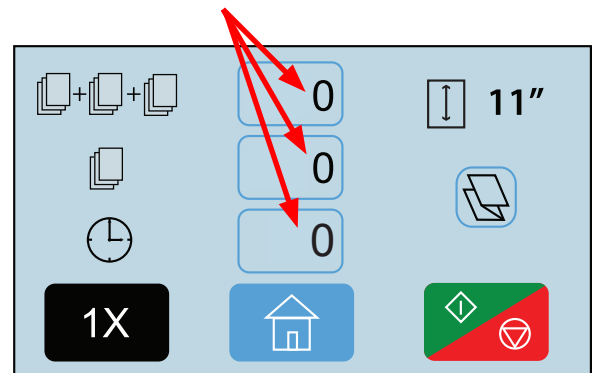

Fig. 57
2. In the AutoBatch mode insure all windows are set to “0”. (Fig. 57)